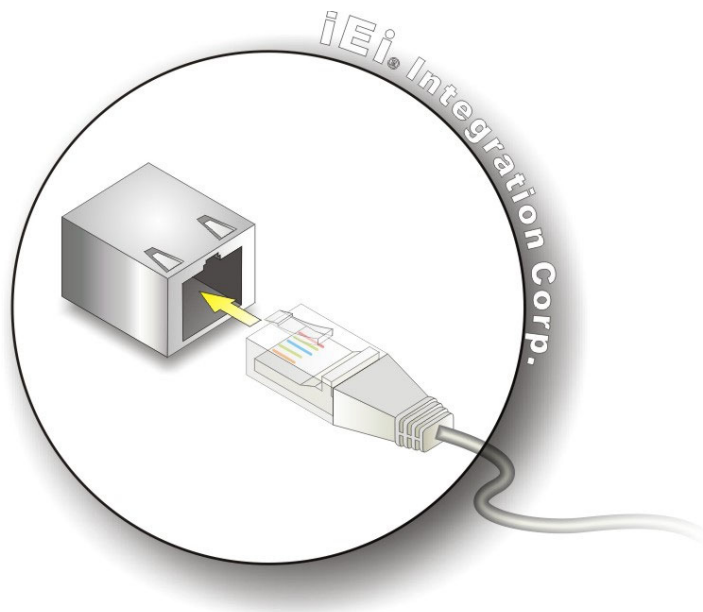

Figure 3-42: LAN Connection
Step 2: **Align the connectors.** Align the RJ-45 connector on the LAN cable with one of the RJ-45 connectors on the PPC-FxxA-H81. See **Figure 3-42**.